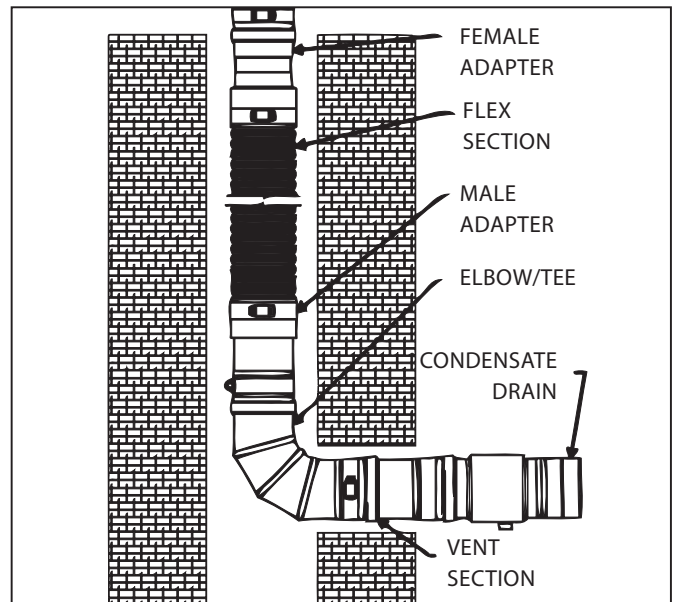

Figure 11
4. The FasNSeal Flex must stay within the masonry chimney; however the Elbow or other FasNSeal components will extend beyond the masonry chimney. (Figure 11)